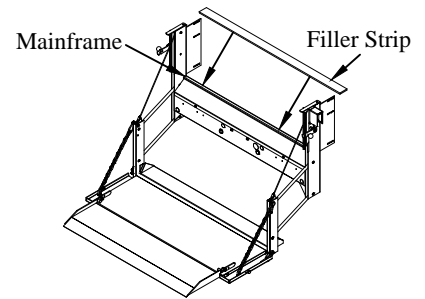

Figure 8: Filler strip location (Original Series).
- 1. Weld** the supplied filler strip (12ga.x1-1/4"x58-1/2") to the top corner of the liftgate mainframe (Figure 8).